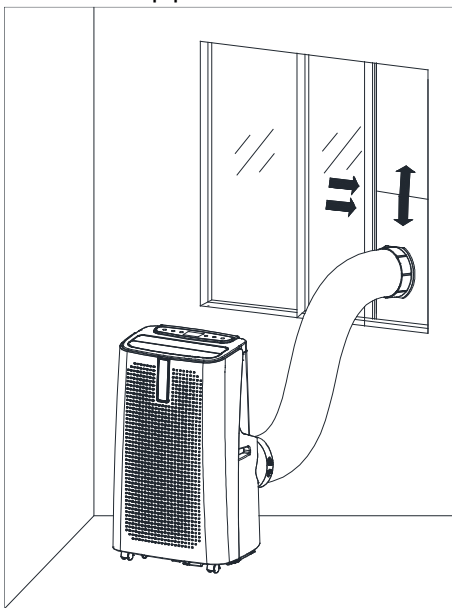
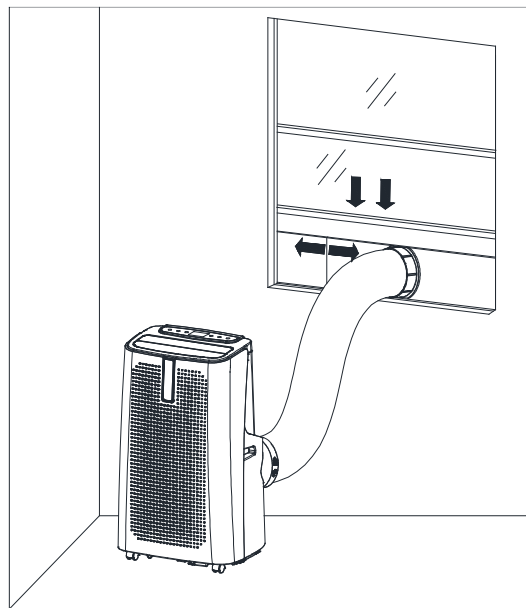

Figure 5
Figure 6
2. Elongate the exhaust pipe and snap the flat end of the exhaust pipe joints into the hole of the window sealing plate assembly (as shown in Fig.5 and Fig.6) .